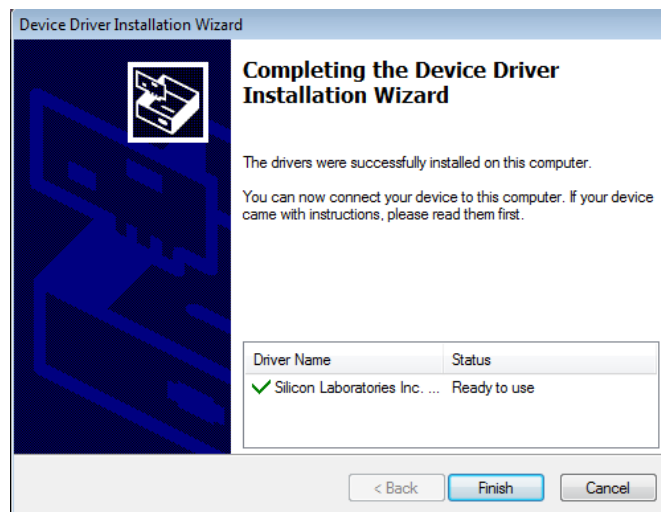

Figure 5: Driver Set-Up Success
4. Wait for status screen to verify that installation is complete (see Figure 5).